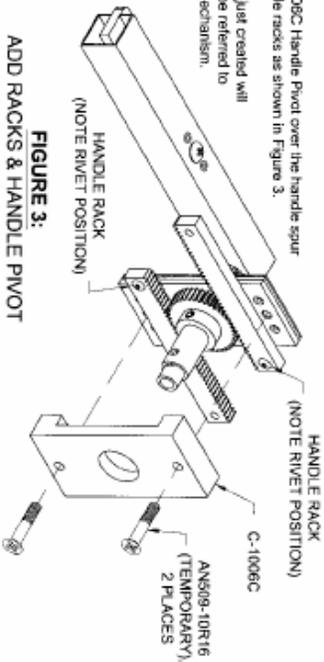

FIGURE 3: ADD RACKS & HANDLE PIVOT
Step 3: Place two Handle Racks on the C-1014 Handle Spur Gear as shown in Figure 3.
Slide the C-1006C Handle Pivot over the handle spur gear and handle racks as shown in Figure 3.